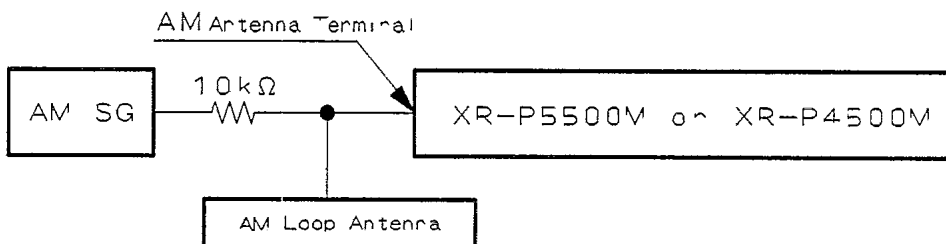

Fig. 1-2 AM Adjustment Connection Diagram
- Connect the wiring as shown in Fig. 1-2.